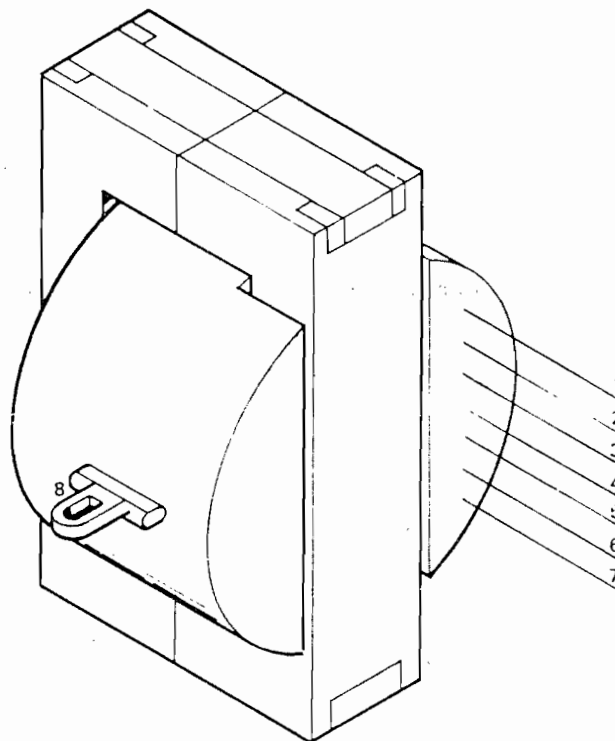

Fig. 1. High voltage transformer terminal configuration.
- ( ) 11. Solder the transformer leads as follows (refer to Fig. 1 for lead configuration details):